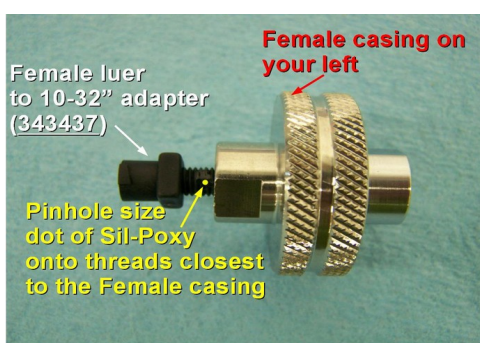

Figure 3: Installing the *Female Luer Adapter* into the *Female Casing*.
- Orient the *Filter* so that the *Female Casing* is on your left and then screw the first 1-2 threads of the *Female Luer to 10-32 Adapter* into the *Female* piece as shown in **Figure 3**. Neatly apply [1] pinhole size dot of *Sil-Poxy* onto the next 2-3 threads that are closest to the *Female casing* and then hand tighten the *Adapter*. Use the $5/16$ " *Combination Wrench* to tighten another $1/2$ turn to ensure the proper tightness.